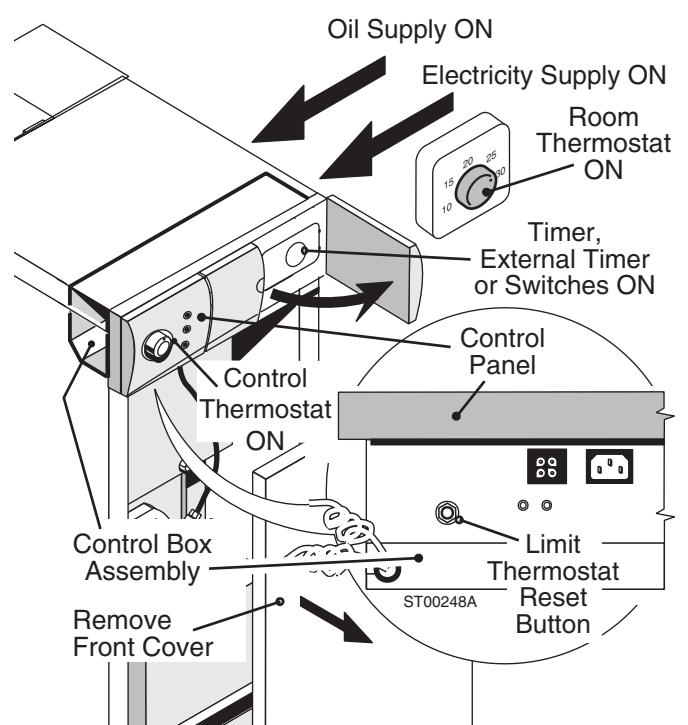

Fig. 1
- The Limit Thermostat operates if the boiler overheats for any reason. This is shown by the overheat light being lit. Should this happen at any time, remove the front casing by pulling forward off the mounting clips and press the overheat reset button (See Fig. 1). If the problem occurs again, turn off the electricity supply and contact your installer.